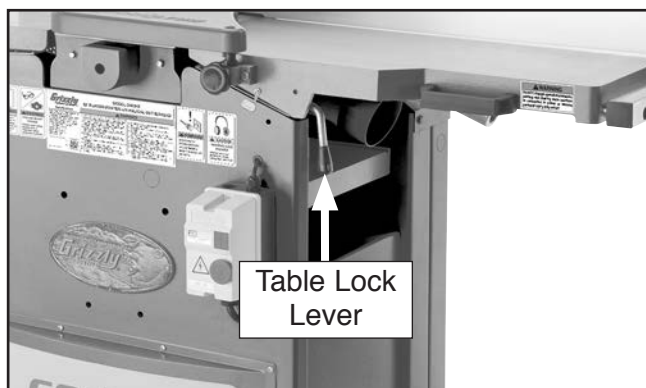

Figure 33. Location of infeed table lock lever.
4. Rotate infeed table lock lever (see **Figure 33**) clockwise, pull it out, and pivot table upward.